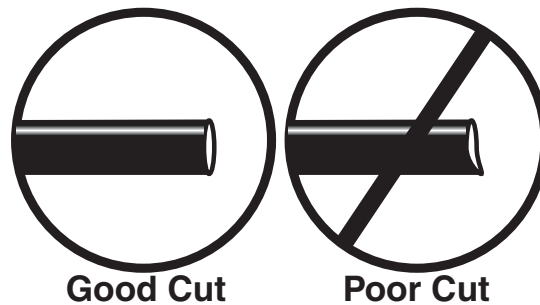

fig. 10
WHEN CUTTING OR TRIMMING THE AIR LINE, USE A HOSE CUTTER, A RAZOR BLADE, OR A SHARP KNIFE. A CLEAN, SQUARE CUT WILL ENSURE AGAINST LEAKS. DO NOT USE WIRE CUTTERS OR SCISSORS TO CUT THE AIR LINE. THESE TOOLS MAY FLATTEN OR CRIMP THE AIR LINE CAUSING IT TO LEAK AROUND THE O-RING SEAL INSIDE THE ELBOW FITTING (FIG. 10).
7. Cut off the air line, leaving approximately 12" of extra air line. A clean square cut will ensure against leaks (see fig. 10). Insert the air line into the air fitting. This is a push-to-connect fitting. Simply push the air line into the 90° swivel fitting until it bottoms out (9/16" of air line should be in the fitting).